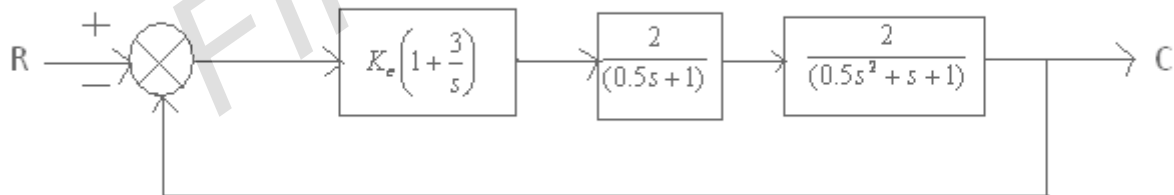

Figure 11:
7. Draw the root-locus figure 11 for the following control system.